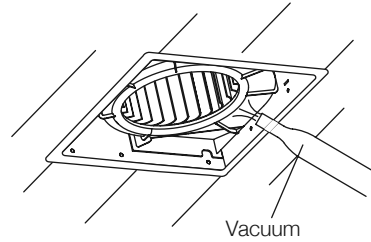

Figure 8
3. Remove dust and dirt from the fan housing with a vacuum cleaner (Fig. 8).